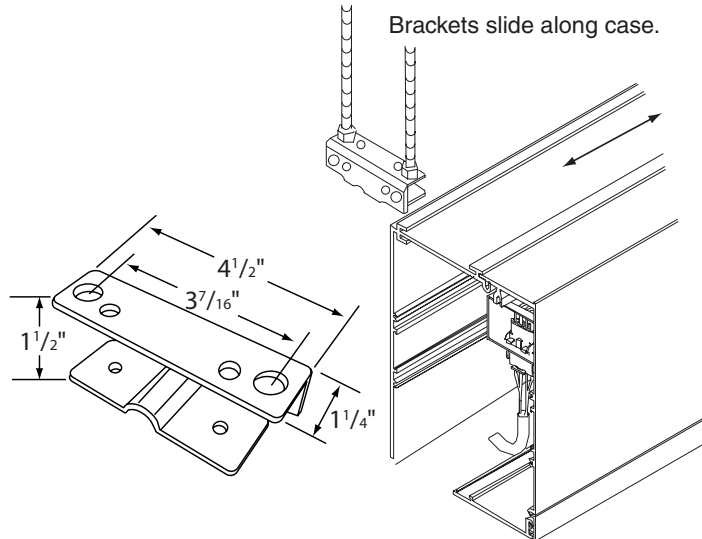

Figure 4
- ① Slide brackets into place in the grooves provided (see Fig. 4).
- ② Locate bracket as required for threaded rod, chain, or cable, and tighten set screws to hold bracket in place.